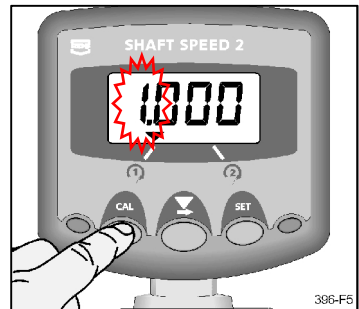

Figure 5: Display Cal. Factor
4. To display the existing cal. factor, press  to select the channel, and then press the **CAL** button (fig. 5).